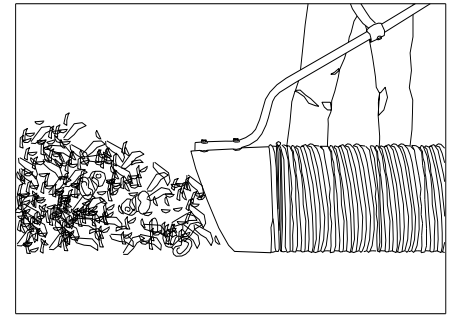

Fig. 1
**NOZZLE:** With machine running and fully assembled, move nozzle in sweeping motions over debris. For maximum pickup, move nozzle close to debris, but without blocking airflow into the nozzle (see figure 1). **NOTE:** Never bury nozzle into debris.